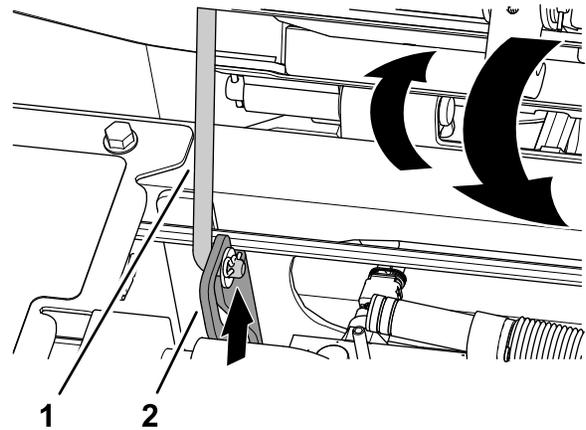

Figure 65
1. Rotate the seat slightly, and lift the prop rod out of the dent of the seat support slot (Figure 65).